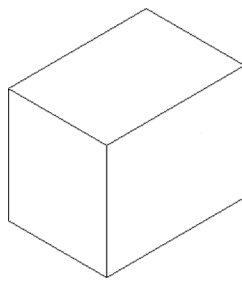

FIGURE 20.6 Isometric drawing, Step 8.
Step 8. You can press F5 again for the final surface or use the copy command. Be sure to use the ENDpoint OSNAP to cleanly connect lines. Fig. 20.6 shows what you get after a few lines.